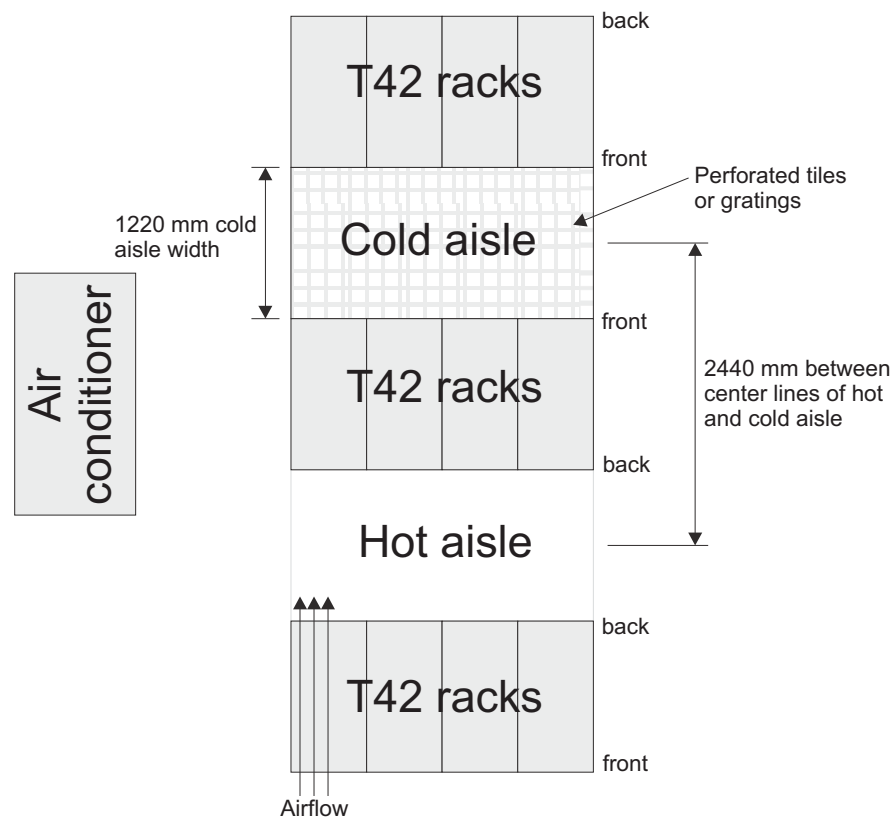

Figure 14. Example of cold aisle/hot aisle rack configuration
- Air enters at the front of the rack and leaves at the back. To prevent the air that is leaving the rack from entering the intake of another piece of equipment, you must position the racks in alternate rows, back-to-back and front-to-front. This arrangement is known as *cold aisle and hot aisle* and is shown in Figure 14.